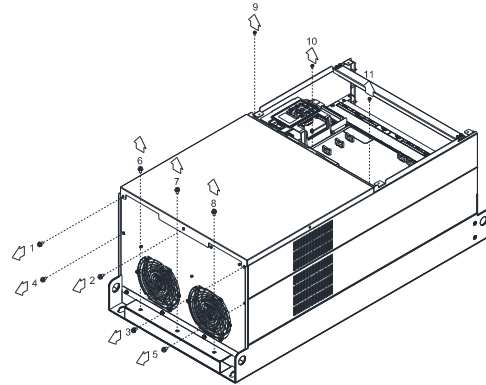

Figure 2
2. For 1–8 shown in the figure 2: Loosen the screws Screw torque: 35–40 kg-cm / (30.4–34.7 lb-in.) / (3.4–3.9 Nm)
3. For 9–11 shown in the figure 2: Loosen the screws and removes the cover. Screw M4 torque: 14–16 kg-cm / (12.2–13.9 lb-in.) / (1.4–1.6 Nm)